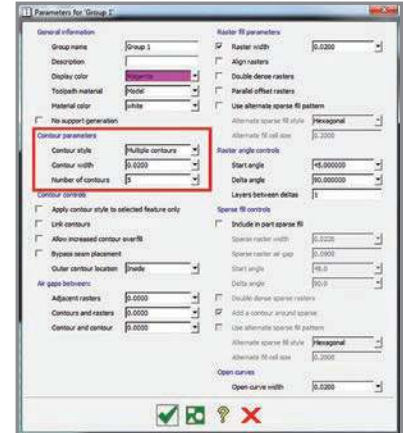

Figure 9: Multiple contours is enabled and additional contours are specified in the Contour parameters options.
STEP 8: Under the *Contour parameters* section, select *Multiple contours* from the drop-down menu (Figure 9). You may change the contour width from the default value based on the calculation in Step 6. Select the *Number of contours* from the drop-down menu. This is the number of contours this group of curves will have.